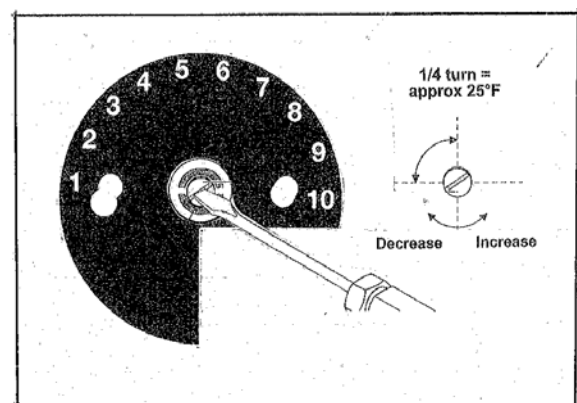

Fig. 16
3. Using a small screw driver, turn the screw in the center of the thermostat stem: **“clockwise to Decrease”** temperature or **“counter-clockwise to Increase”** temperature. (Fig. 16)